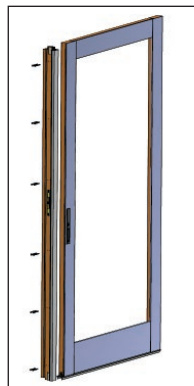

FIG. 20
- A) Attach the astragal assembly to the leading edge of the secondary active panel. Line up the holes in the astragal with the pre-drilled holes in the edge of the panel. Secure the astragal in place by inserting the provided screws (found in the “astragal” screw package) through the astragal and into the pre-drilled holes on the edge of the panel. Note: The metal on the astragal should be facing toward the exterior of the door and the keeper should be facing toward the lock on the active panel. (Fig. 20)